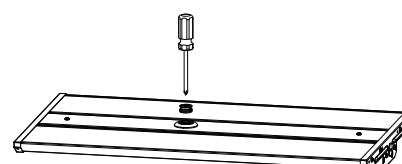

Figure 15
Step1. Use a screwdriver to remove the 1/2 plug from the sensor;(Figure 15)